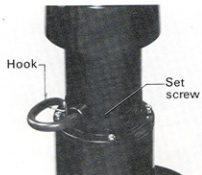

Fig. 62
(2) Loosen the setscrew on the side of the relay lens section and detach the plug. (See Fig. 62)
Hook the optical fiber light guide on its hook, to keep it from dangling. (Fig. 62)